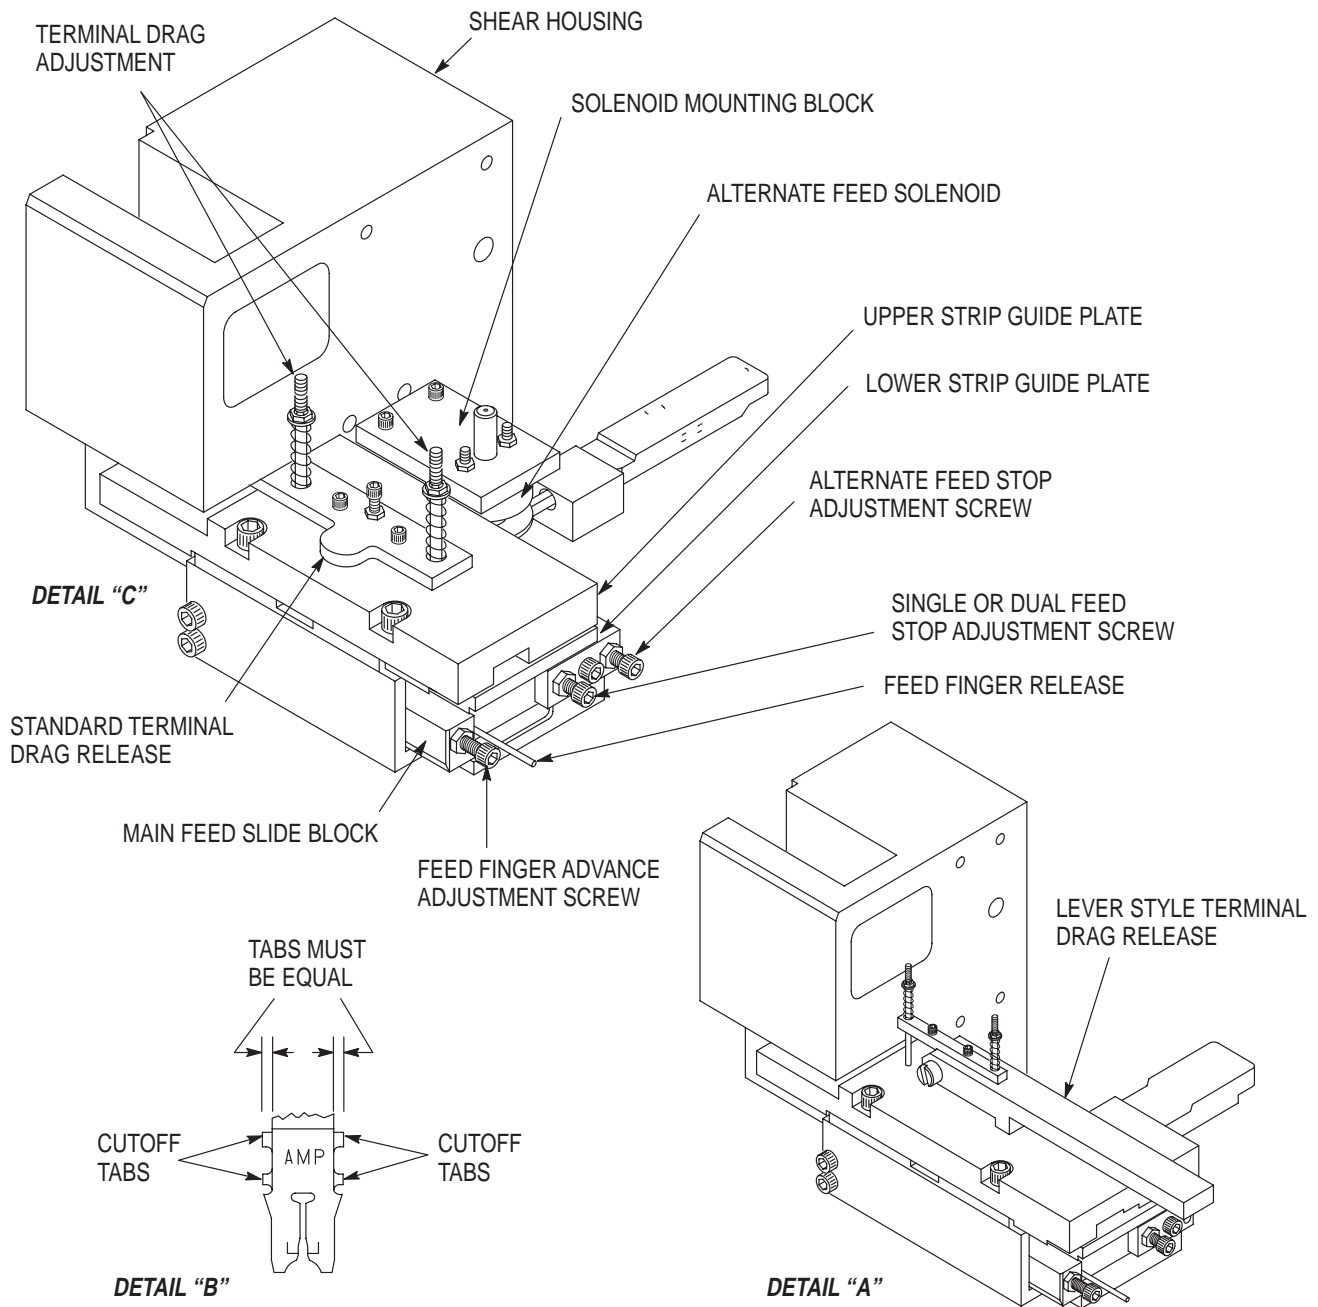

Figure 6-1. Feed Mechanism Adjustment Locations
Located between the main feed block and the shear housing is a compression spring which applies a load to the block when actuated forward. The purpose of the spring is to eliminate terminal overrun when advanced into the "target area" (see Figure 6-2). The spring helps to produce equal cutoff tabs (as shown in Figure 6-1).
**6.3. Terminal Feed Mechanism Adjustments (Figure 6-1)**
- **Modules Not Equipped with Alternate Feed Solenoid (Figure 6-1)**